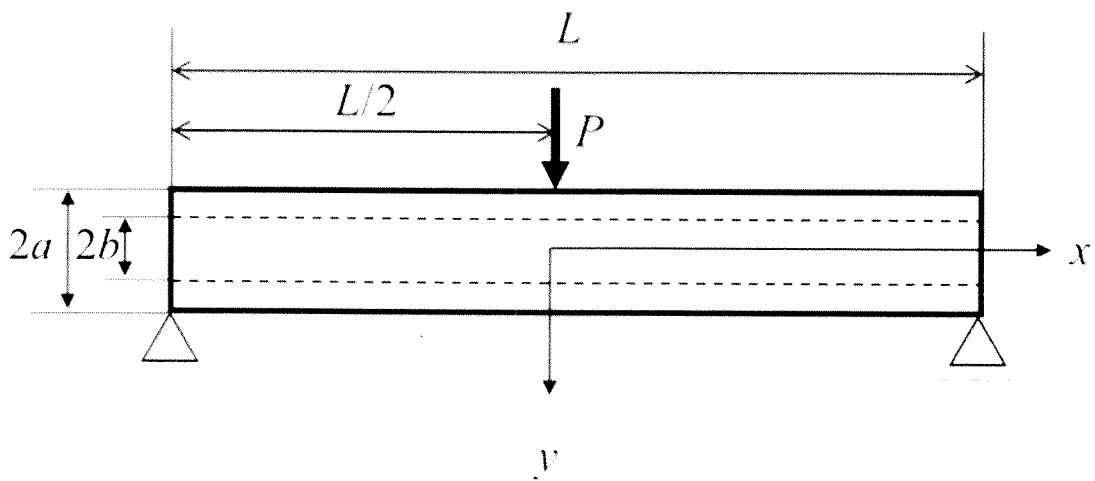

Figure 2
2. The concentrated load  $P$  is applied to this cylinder at the center in the longitudinal direction as shown in Figure 2. Assume no deflection at the supporting points. Here, Young's modulus is denoted as  $E$  and the Bernoulli-Euler theory is assumed.